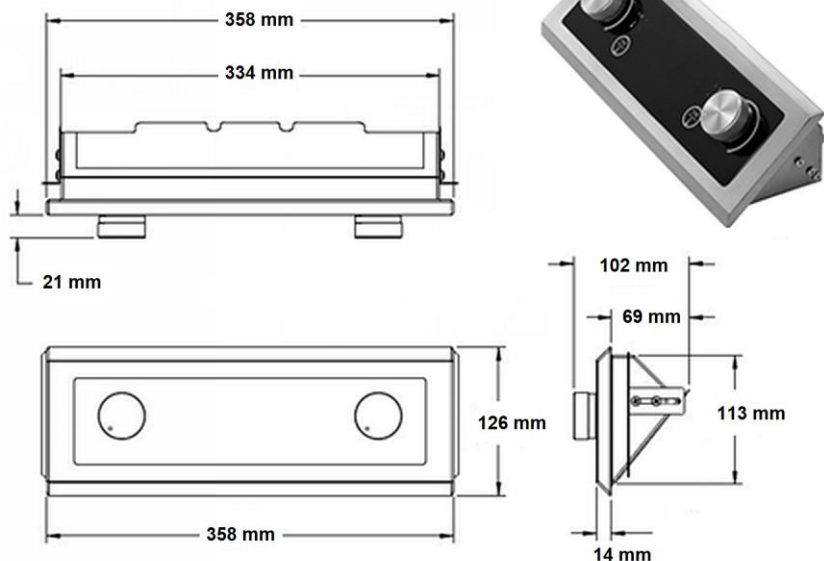

Fig. 3
1. The cut-out for the control unit should be 348 mm long and 113 mm wide (Fig. 3).